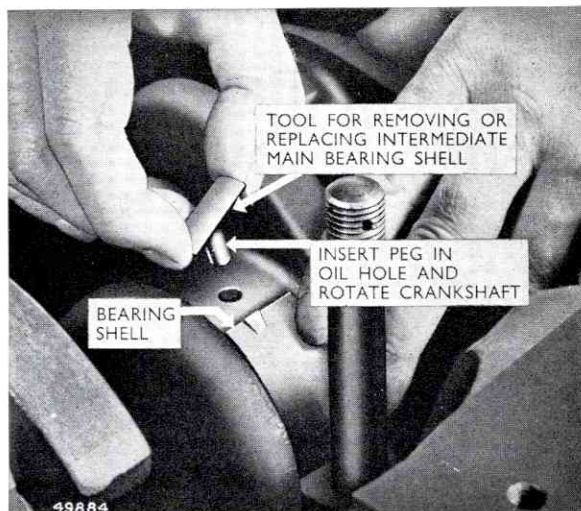
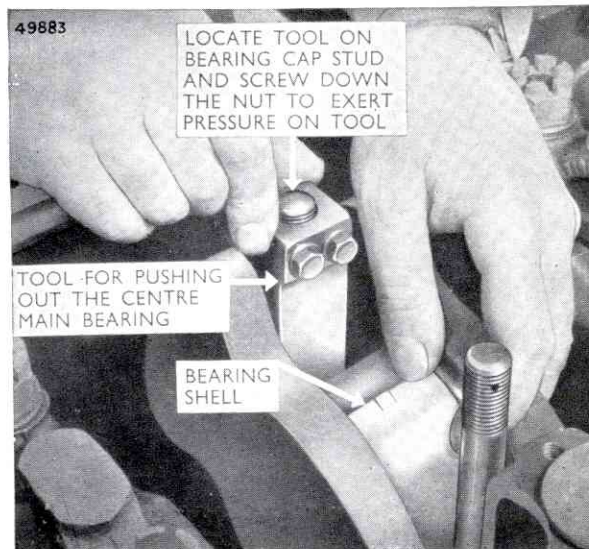

FIG. 46. REMOVAL OF INTERMEDIATE BEARING SHELL
FIG. 47. REMOVAL OF MAIN BEARING SHELL
4. Remove the lower half of the bearing from the cap, push out the top half of the bearing by rotating it on the crankshaft, using Leyland tool No. 245872, which should be placed in the oil hole in the journal as shown in Fig. 46. For the centre main bearing use Leyland tool No. 245869, this is placed on the bearing cap stud, Fig. 47.